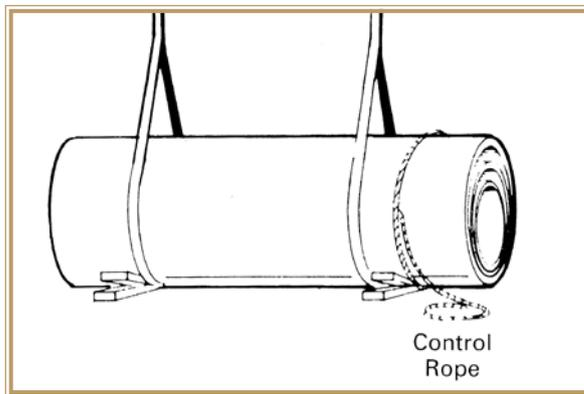

Figure 2.5 - Double support point
1. Always lift the nested bundle using at least two pliable straps (Figure 2.5). Restrictions, if any, for spacing between straps and lifting locations will be specified for each project. Insure that the lifting slings have adequate capacity for the package weight. This may be calculated from the approximate pipe weights given in "Appendix I".